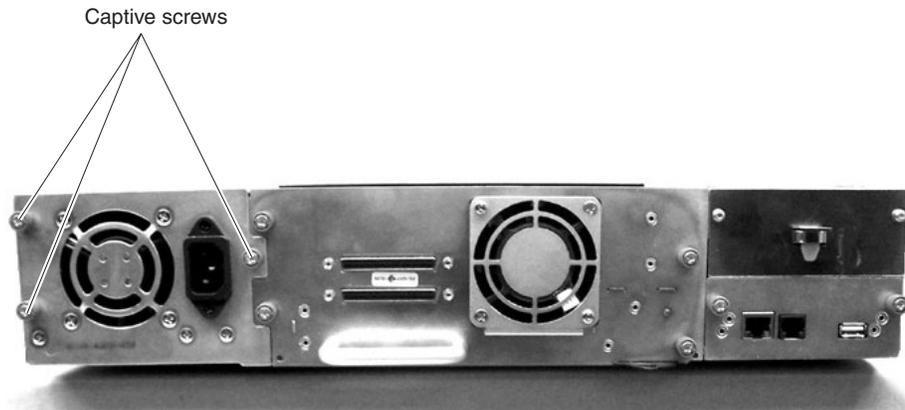

Figure 24. Remove power supply
4. Pull the power supply out of the autoloader chassis as shown in Figure 24 on page 24.